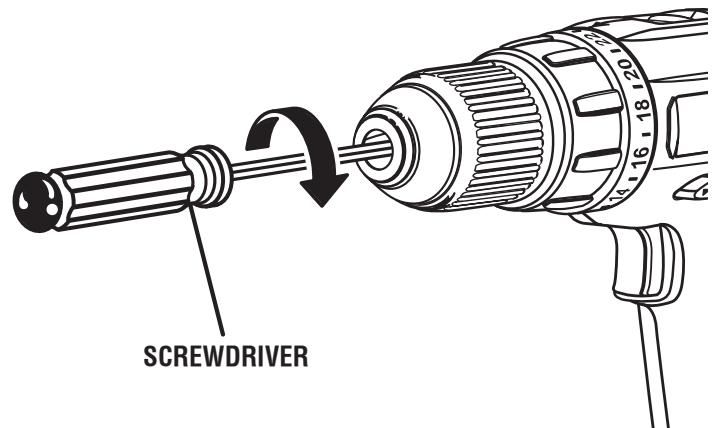

Fig. 14
- Open the chuck jaws and remove the hex key. Remove the chuck screw by turning it in a clockwise direction. See Figure 14.